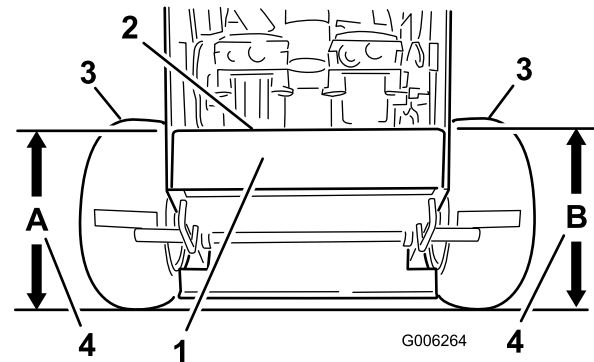

Figure 70
4. Measure engine deck height at location **A** (Figure 70).
5. Measure engine deck height at location **B** (Figure 70).